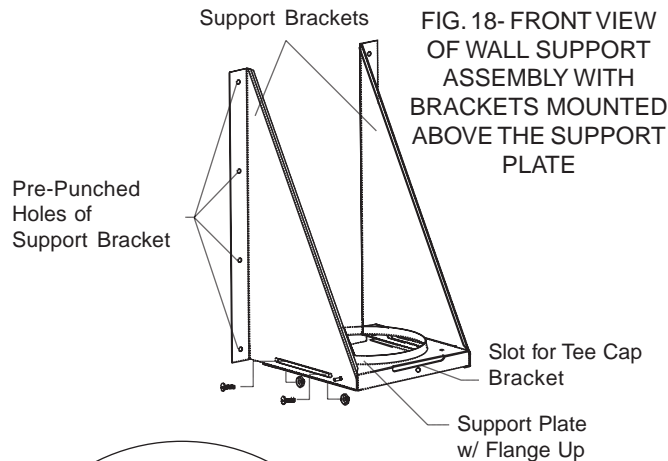

FIG. 18- FRONT VIEW OF WALL SUPPORT ASSEMBLY WITH BRACKETS MOUNTED ABOVE THE SUPPORT PLATE
NOTE: If ground clearance does not permit the installation of the Wall Support with the Support Bracket facing down, it is permissible to invert these brackets. Inverting the brackets (brackets mounted on the wall above the support plate) can be accomplished by rotating the Support Plate so that the threaded stud faces toward the front and securing each side with (2) #8 x 3/4" bolts (not supplied) through the oblong slots of the support side brackets and the support plate as per Figures 18 and 19. Secure with nuts. In this position, the range of adjustability is limited to 5" from the wall (see Table 4). Install the Insulated Tee Cap as per step 15.